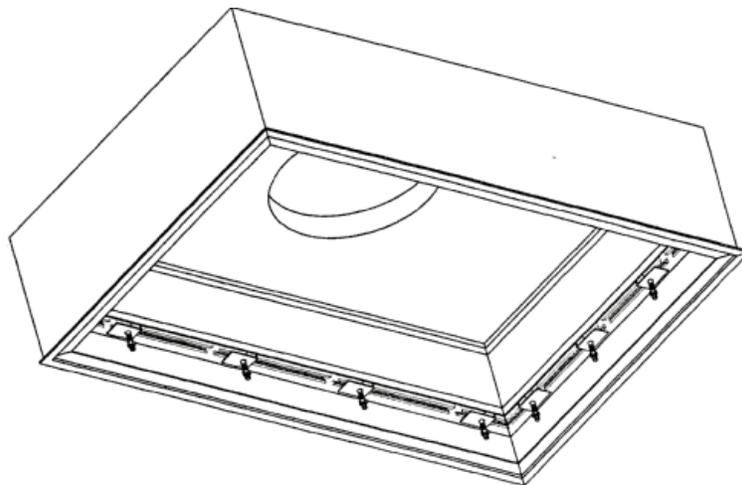

Figure 3. Retaining clip positioning prior to filter installation with "knife edge" of diffuser ready to mate with filter's gasket or gel seal.
- g. Properly position these retaining clips and bolts within extrusion's channel. The head of the bolt should be placed in the channel and slid into approximate position, evenly spacing the clips around the frame and approximately 6" from the corners. See Figure 3 for reference. Turn all clips out such that the gasket flange or gel channel will easily protrude into the knife-edge.